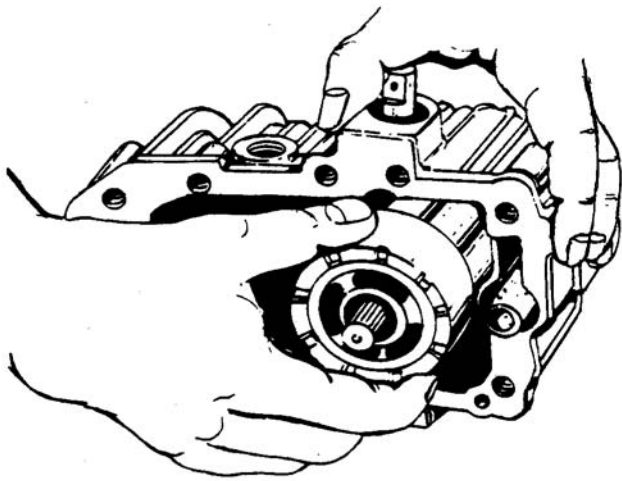

Figure 6-17. Removing Pump and Motor
b. Slide out cylinder block kits (pump motor). The motor shaft will slide out with the cylinder block kit. Take care not to damage the surface of cylinder blocks. See Figure 6-17.